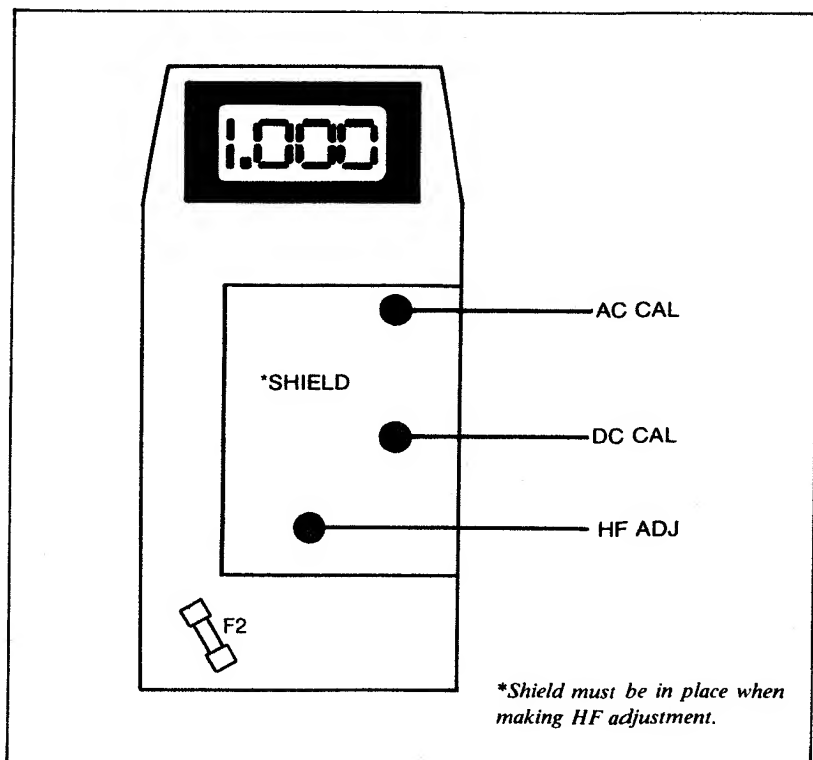

Figure 4-1. Calibration Adjustment Locations
6. Backup Fuse (F2) all adjustments necessary to complete the calibration procedure are now accessible (see Figure 4-1).